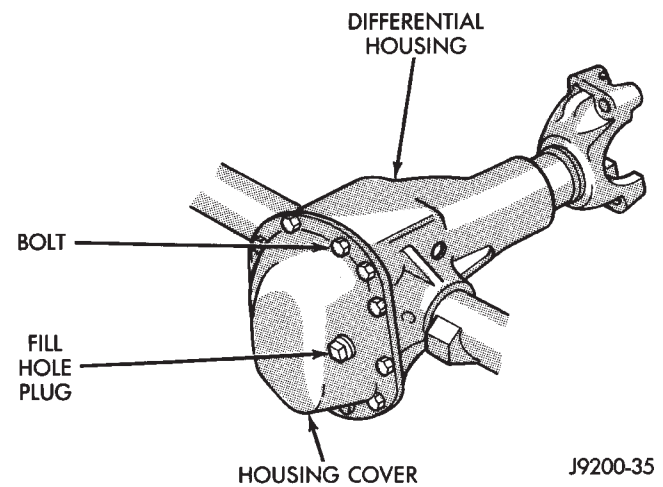

Fig. 13 Differential Housing Cover Installed
(8) Install the cover on the differential housing with the attaching bolts (Fig. 13). Tighten the cover bolts with 47 N•m (35 ft. lbs.) torque.